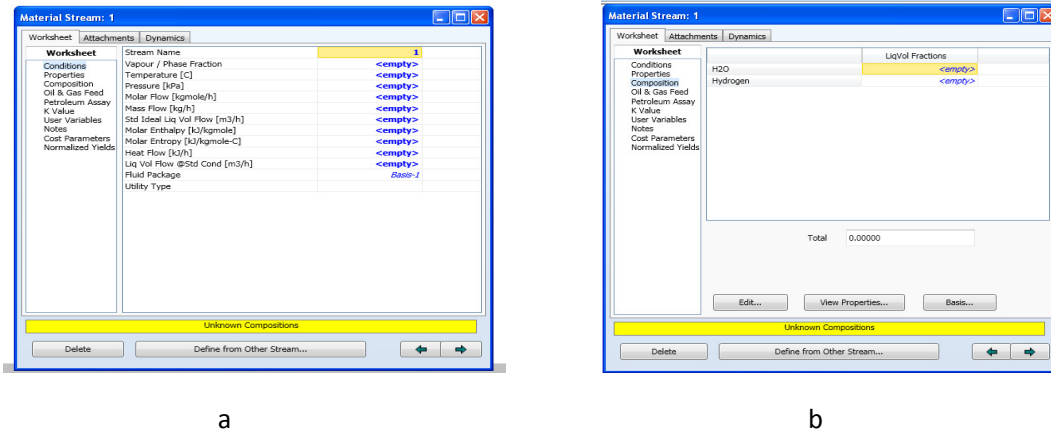

Figure 7: Material stream input
6.2.4 Also note that in figure 7(a), that there is a list of options along the left hand side of the window. In order to specify the composition of the stream, select the “**Composition**” option from this list (figure 7(b)). Note that only the components that you specify in the simulation basis manager will appear in the list. You can specify the composition in many different ways by clicking on the “**Basis**” button. The HYSYS default is mole fractions; however the user can also specify mass fractions, liquid volume fractions, or flows of each component. If the user is specifying fractions, all fractions must add up to 1.